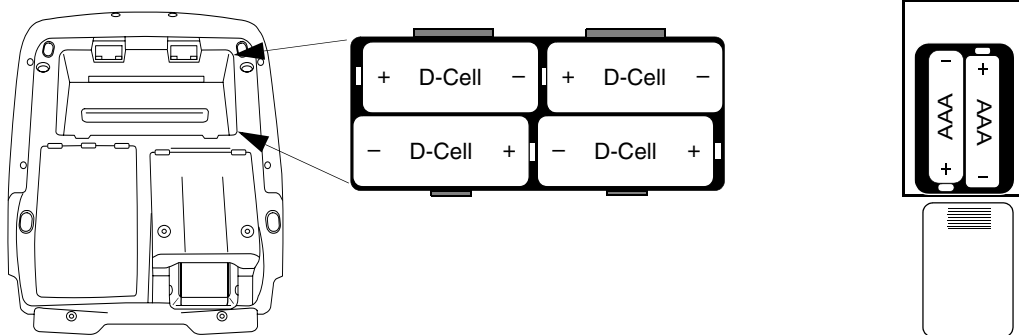

Figure 6 LIFEPAK CR-T AED Trainer and Remote Control Battery Placement
- 4 Insert four fresh, identical batteries, taking care to align the (+) and (-) terminals correctly. The correct battery placement is shown in Figure 6.
Two AAA alkaline batteries provide power to the remote control. The batteries are located in a compartment on the bottom of the remote control. (See Figure 6.)